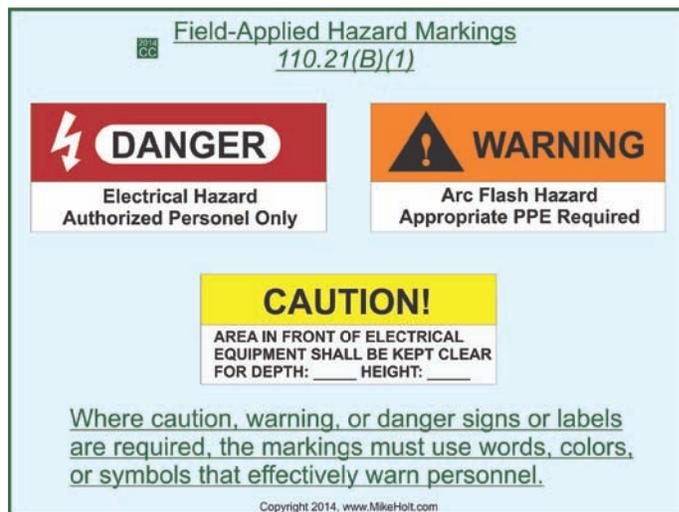

Figure 110–5
**(A) Manufacturer’s Markings.** The manufacturer’s name, trademark, or other descriptive marking must be placed on all electrical equipment and, where required by the *Code*, markings such as voltage, current, wattage, or other ratings must be provided. All marking must have sufficient durability to withstand the environment involved.
**(B) Field-Applied Hazard Markings.** Where caution, warning, or danger signs or labels are required, the labels must meet the following:
- (1) The markings must use words, colors, or symbols that effectively warn personnel. **Figure 110–5**